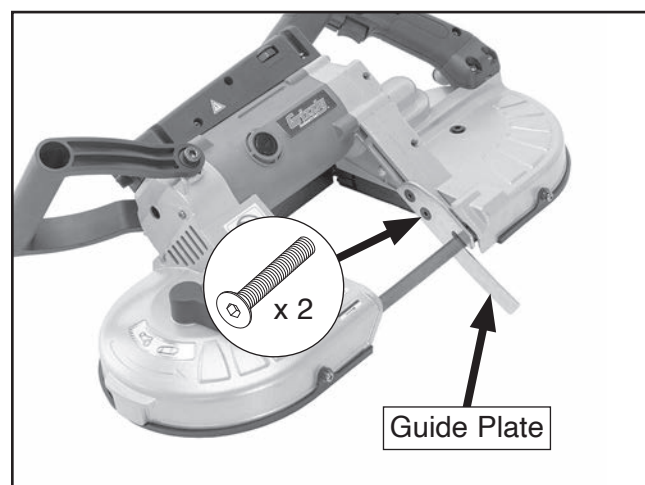

Figure 9. Guide plate and screws.
1. Remove (2) screws shown in **Figure 9** to remove guide plate from bandsaw.